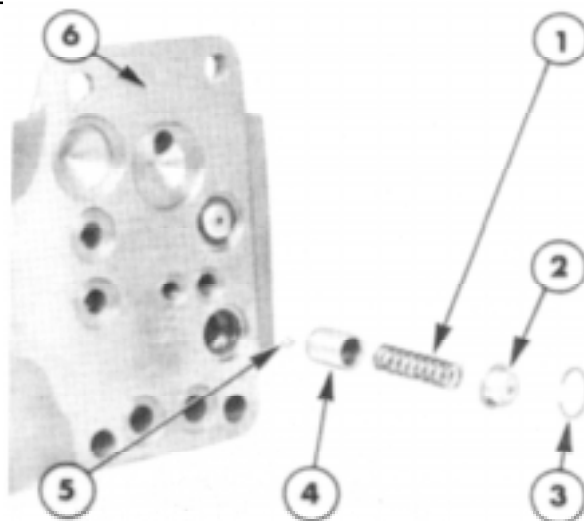

Figure 9
1. Remove the detent retaining snap ring from the base of the remote control valve and withdraw the retainer, spring detent and ball, Figure 9.